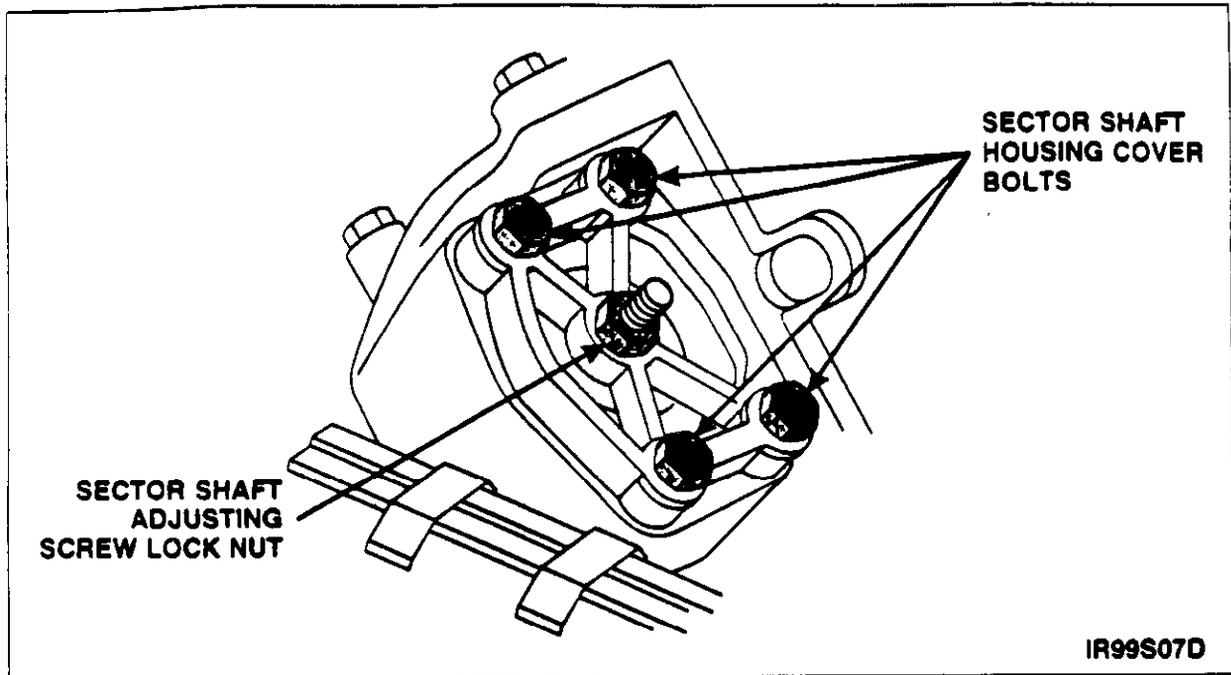

FIGURE 4
- Rotate the sector shaft so the input shaft makes two (2) turns and the flat spot on the input shaft is aligned with the mark on the gear housing.
3. Remove the sector shaft adjusting screw lock nut. See Figure 4.
4. Remove the steering gear sector shaft housing cover bolts. See Figure 4.